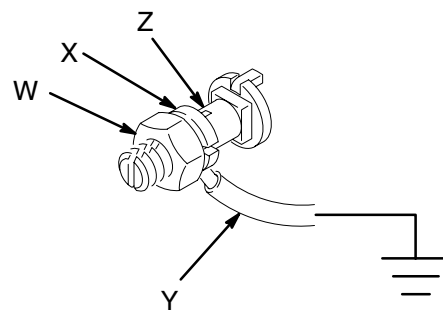

Fig. 1
1. *Pump:* order Part No. 237569 Ground Wire and Clamp. See Fig. 1. Loosen the grounding lug locknut (W) and washer (X). Insert one end of the ground wire (Y) into the slot in lug (Z) and tighten the locknut securely. Connect the other end of the wire to a true earth ground.